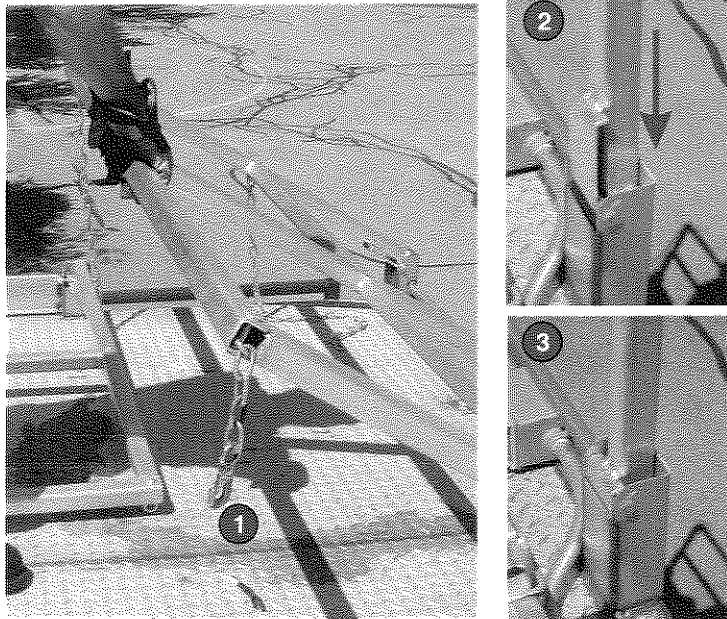
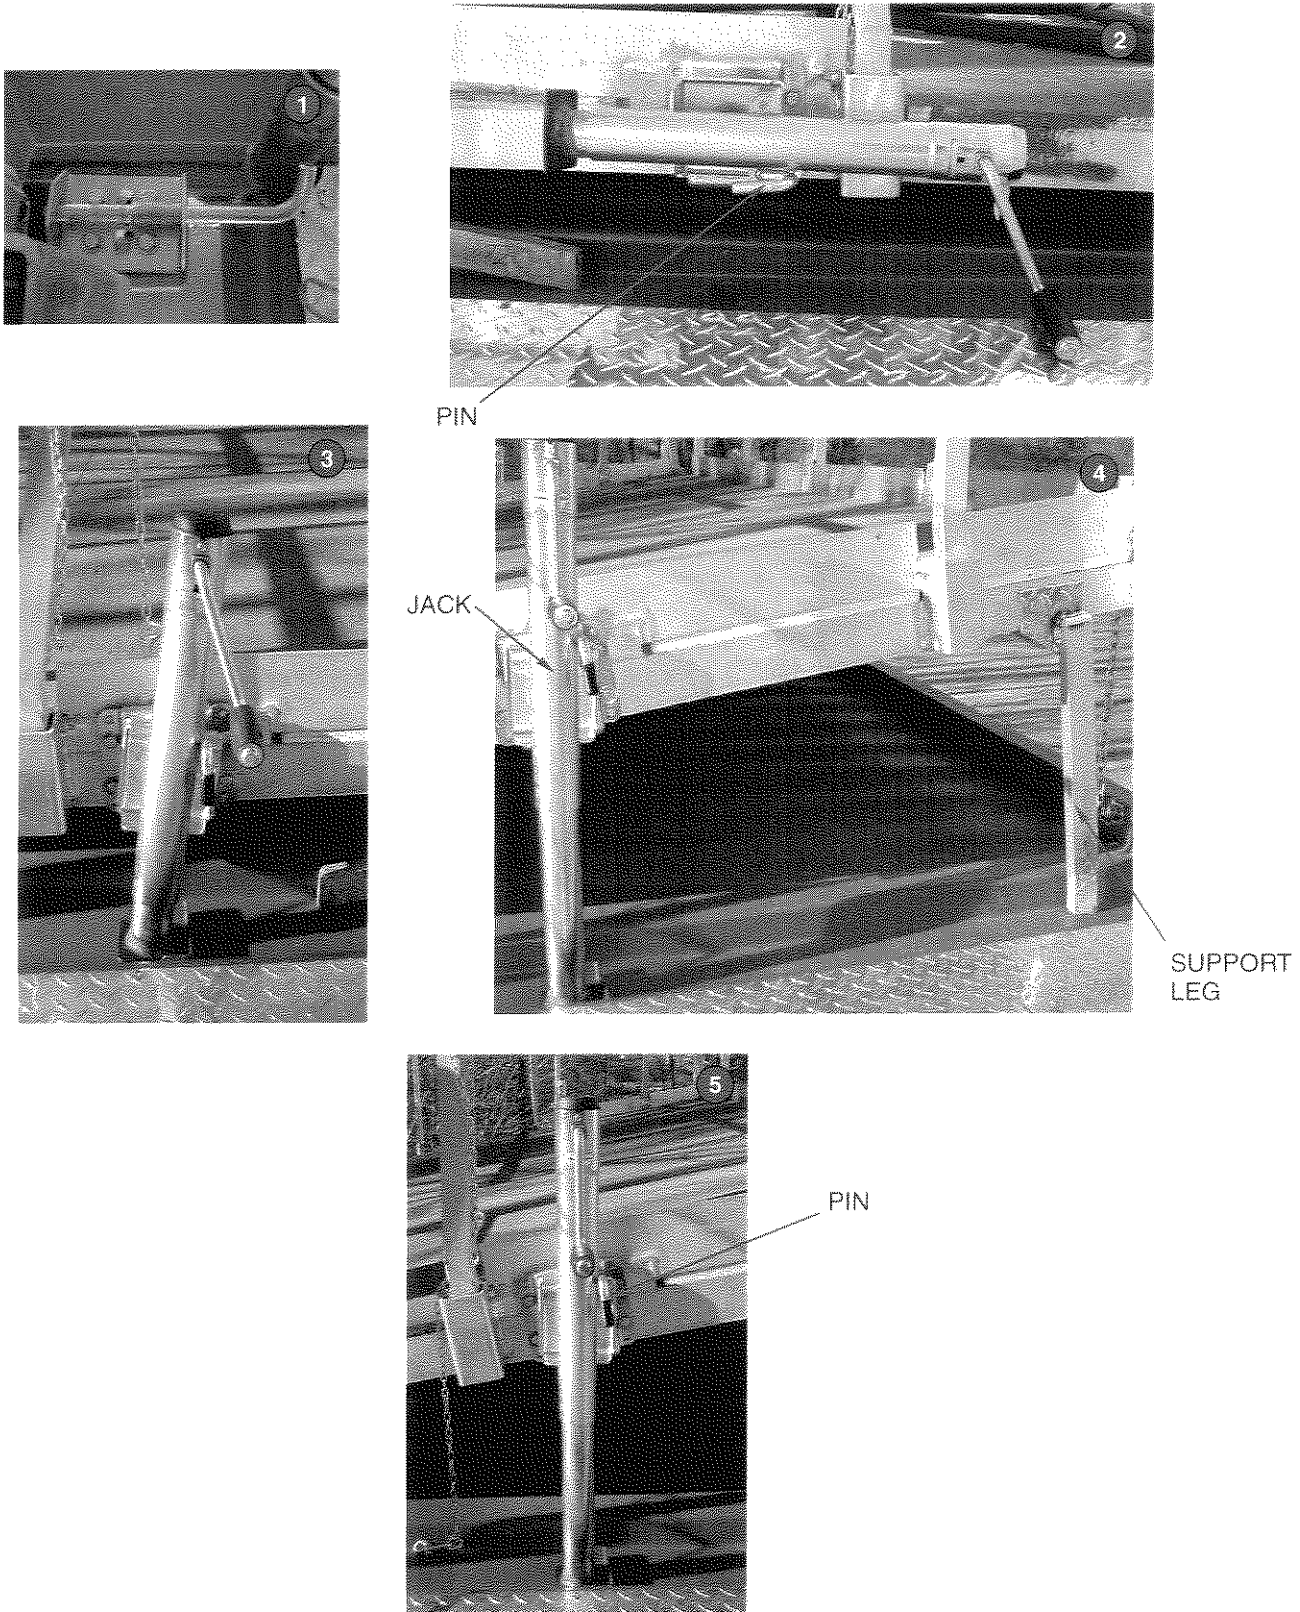

Figure 3-3 Roof Railing Assembly
Figure 3-4 Incline Roof Prop Setup
2. Located on top of the trainer are railing sections (Figure 3-3). Assemble railing by swinging to the upright position (Figure 3-3 item 1) and allow them to drop into place, in the receivers (Figure 3-4 items 2 & 3).
1. At the roadside, there is a spring-loaded pin on each side of the Incline Roof Prop used to secure the Roof Prop to the trainer during transit and any time the Prop is not in use. Disengage and secure each spring-loaded pin in the out position by pulling the pin back and rotating as shown in Figure 3-4, Item 1.
2. The roof prop must be manually raised into position by using the two hand crank jacks. There is a jack located on each side of the roof prop. Release the pin that holds the jack in the stored horizontal position (Figure 3-4, Item 2). Rotate the jacks to the vertical position (Figure 3-4, Item 3).
4. Swing each support leg down to the vertical position (Figure 3-4, Item 4). Align both of the jacklegs vertically and lower both jacks until the roof prop is resting on the support legs and jacklegs (Figure 3-4, Item 4). Be sure the jackleg feet are flat on the trainer roof and located within the receivers and the pin is in, securing the jack in the vertical position (Figure 3-4, Item 5).